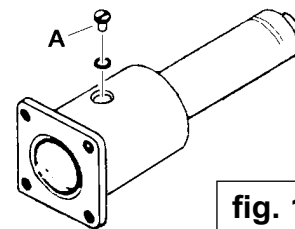

fig. 1
- 3.2.1. Remove the transit plug on the hydraulic pump and replace with the vented plug (fig. 1.A) provided.
- 2) Remove vented plug (fig.1.A). Correct oil level is up to plug aperture - add hydraulic oil as necessary.